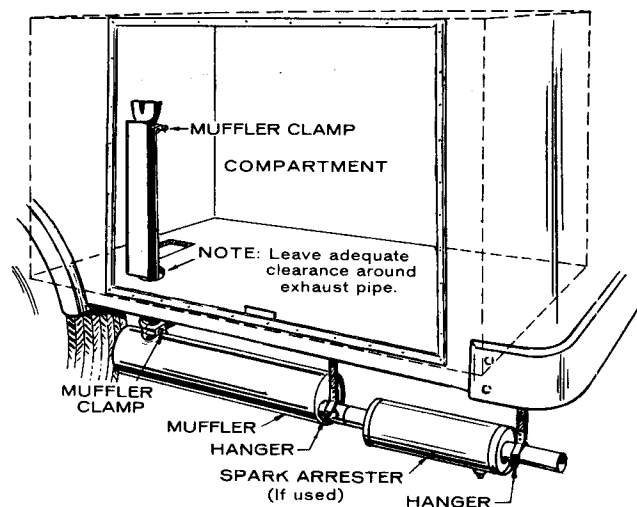

FIGURE 10. TYPICAL EXHAUST SYSTEM INSTALLATION
1. Where the exhaust system passes through the base or floor, leave adequate clearance as protection against exhaust pipe damage from vibration (Figure 10).